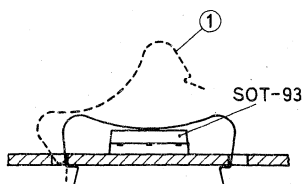

Fig. 1b Mounting.
2. Push the short end of the clip into the narrow slot in the heatsink with the clip at an angle of  $10^\circ$  to  $20^\circ$  to the vertical (see Fig. 1b).